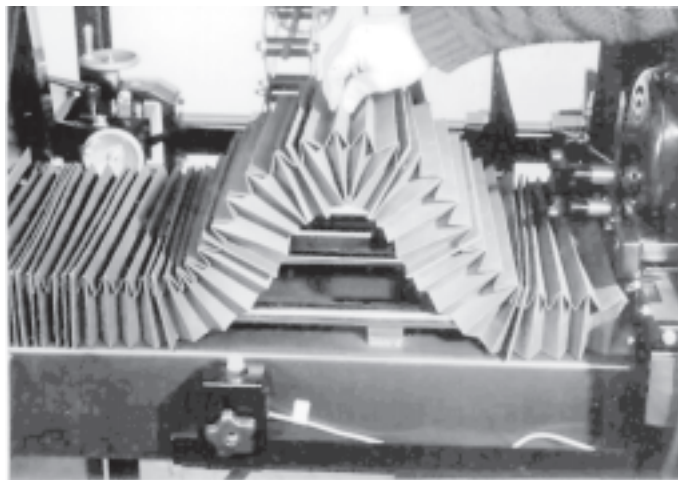

FIG. 26
4. Lift the bellows, (See FIG. 26) if used, and wipe off the traverse driveshaft and the bearing rails monthly. When a squeaking noise is coming from the actuator bearings, follow the lubrication procedure for actuator and linear bearings. Generally, this will be every six months to a year.